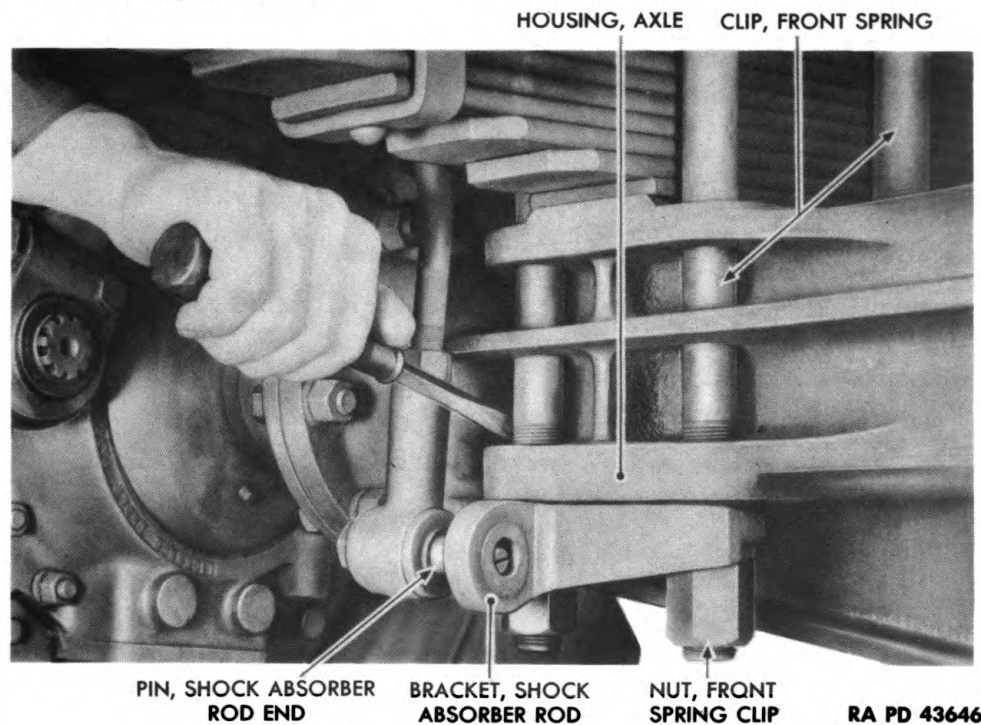

Figure 84—Disconnecting Shock Absorber
(1) DISCONNECT SHOCK ABSORBER ROD ASSEMBLY (fig. 84).
(a) Remove cotter pin from shock absorber rod end pin (pliers) (fig. 84). Remove shock absorber rod end pin nut and lock washer
which hold shock absorber to shock absorber rod bracket (1-in. socket wrench) (fig. 84).
(b) Pry shock absorber rod end pin out of shock absorber rod bracket (screwdriver) (fig. 84).
(a) Remove four front spring clip nuts and lock washers ($1\frac{3}{8}$ -in. socket wrench). Lift off shock absorber rod bracket (fig. 84). Pry out two front spring clips from axle housing (pry bar). Lift front spring pressure block (fig. 85) off spring.